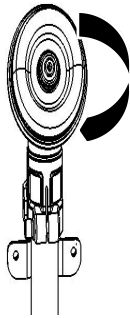

Fig.7
1. Disassemble the nut(clockwise), spool retainer, and support plate from gear case (Fig.7&8)